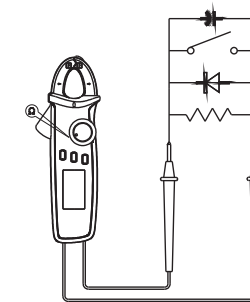

Figure 3
- Connect the probe in parallel to the measured part (Figure 3).